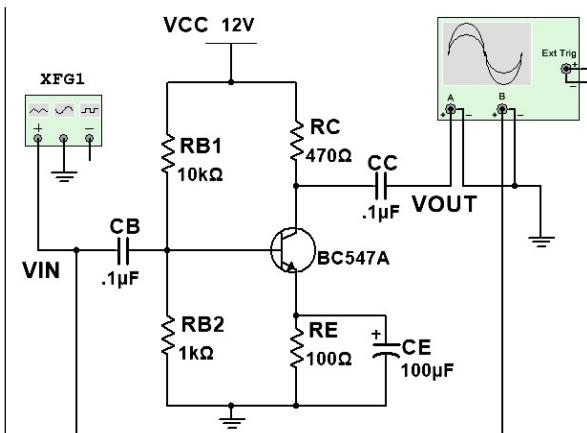

Figure 5.2. Self-bias CE amplifier
The circuit shown in **Figure 5.2** is a Common Emitter (CE) amplifier. As discussed above, with the common emitter amplifier, we first use resistors R_C , R_E , R_{B1} , R_{B2} , and capacitors C_B , C_E , C_C to set up a DC operating point (**Quiescent point / Q-Point**) with input voltage $V_{IN} = 0V$ (i.e., with no input signal at base). The purpose of capacitor C_B and C_C is to isolate the DC operating point currents and voltages from the input and output signals, i.e., the signal source and the load. After establishing a proper **Q point**, an input signal is applied to the base of BJT via coupling capacitor C_B . In accordance with the input signal, small changes in base current I_B will result in variations in the bias conditions. The variation of bias conditions at the collector is then passed through the coupling capacitor C_C , which is taken to be V_{OUT} .
1. Make breadboard connections with respective components for the circuit shown in *Figure 5.2*.